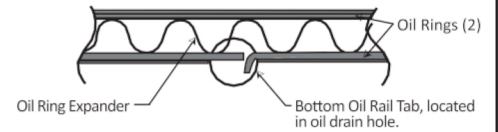

FIG. 1
- **3-piece** designs without tabbed rails are not directional and can be installed either direction. Designs with either one or two tabbed rails that are used to prevent rail rotation require the tabs to be installed with the tabs in the recesses of the oil ring groove. Consult the piston or engine manufacturers for specific installation information. \*FIG 1